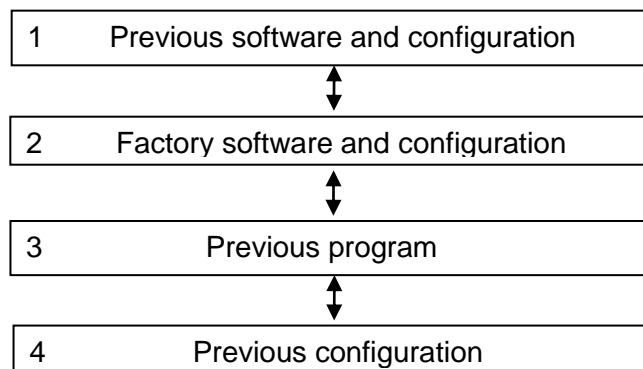

Figure 99 – Menu structure of the "Service functions" mode
8.3.2 When switching to the **Service functions** menu item, the display of the device shows the menu given in figure 99.